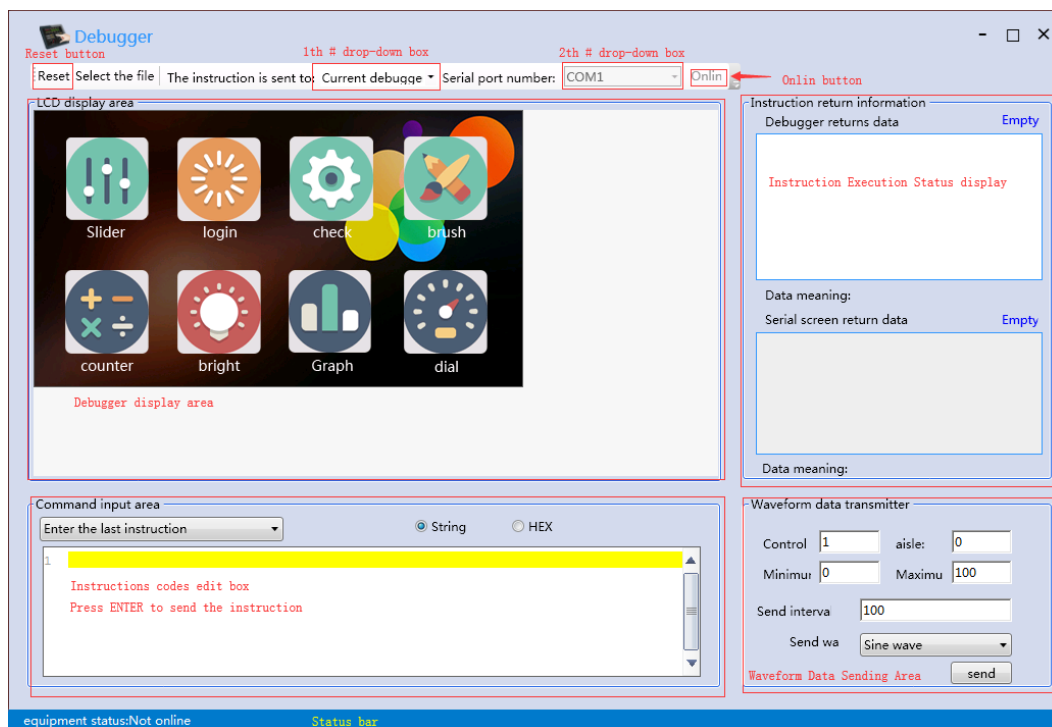

Figure 5-3
2. The second step is to open the debugging interface: Click the “Start Debugging” button to enter the debugging window, where the LCD screen can be simulated. As shown in Figure 5-3: